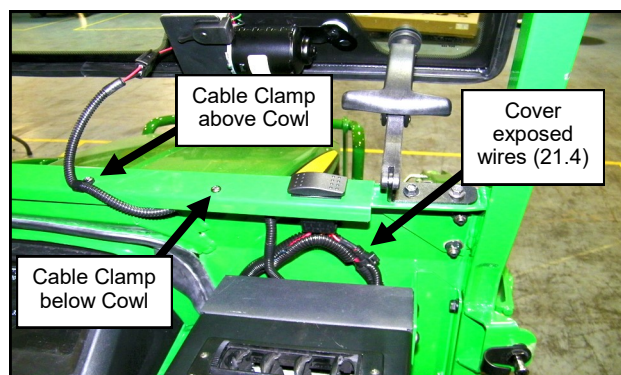

Fig. 20.3 (Secure Wires to Cowl)
- 20.3** Open the windshield and secure the wiring harness to the cowl using cable clamps. Verify the wiper harness routing allows the windshield to be opened and closed without the harness getting pinched under the windshield. See figure 20.3.